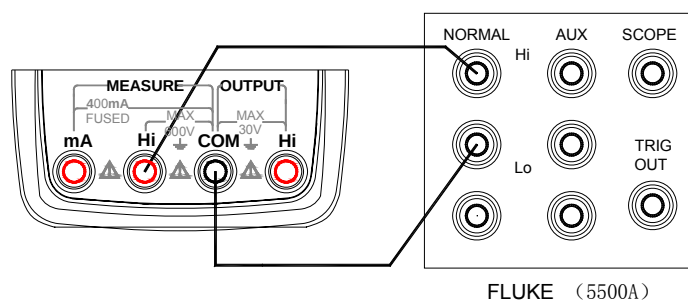

Figure 12 .Direct Voltage Calibration
1. The calibration wiring diagram is shown in Figure 12: